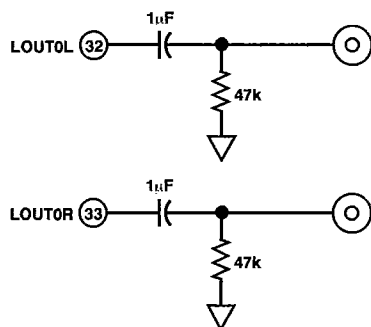

Figure 13. AD1849 Line Output Connections
Figure 13 shows ac-coupled line outputs. The resistors are used to center the output signals around analog ground. If dc-coupling is desired, CMOUT could be used with op amps as mentioned above.
- The *K-Grade* AD1849 was designed to require no external low-pass filters on analog outputs. As shown in Figure 13, the AD1849 only requires ac coupling capacitors and resistors for line-level dc bias. In contrast, the most recent CS4215 data sheet has added a single-pole passive filter for its recommended line-level output circuit. Though overkill for the AD1849, this output circuit will work with the AD1849 as well.
- The *J-Grade* AD1849 was designed to require no external low-pass filters on analog outputs. As shown in Figure 13, the AD1849 only requires ac coupling capacitors and resistors for line-level dc bias. In contrast, the most recent CS4215 data sheet has added a single-pole passive filter for its recommended line-level output circuit. Though overkill for the AD1849, this output circuit will work with the AD1849 as well.